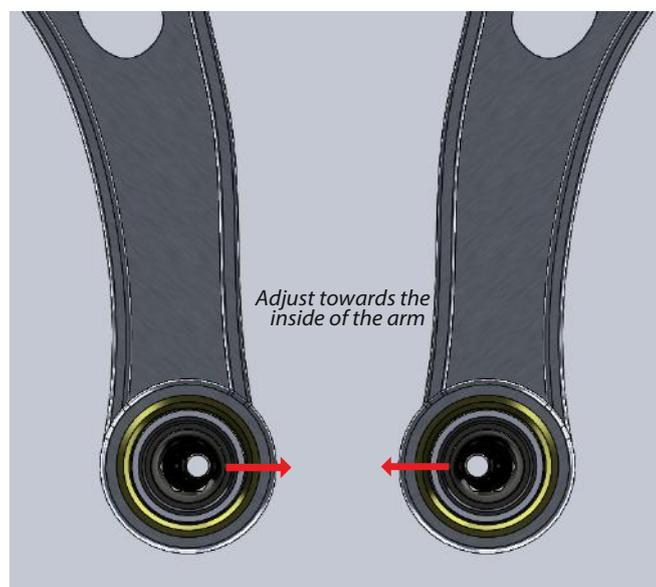

Figure 2 - showing the maximum caster adjustment
**Tip: For maximum caster, adjust the centre ball so that the offset sleeve is nearer to the inside of the car as shown in Fig 2.**